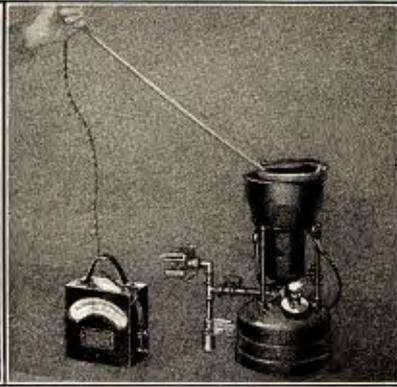

Fig. 149
- 226** The babbitt is placed in a melting pot and heated. The temperature of the metal is very important. Perfect bearings can be poured only when the temperature of the babbitt is between 800° and 840° F. The temperature of the metal can be checked with a pyrometer (See Fig. 149). If no pyrometer is available an experienced repair man can estimate the temperature of the metal by its appearance. When the correct temperature is attained the metal has the appearance of quick silver and tarnishes slowly when the scum is scraped off; the coat of tarnish showing various colors. When cold the metal acts sluggish and the tarnish assumes a dull appearance.